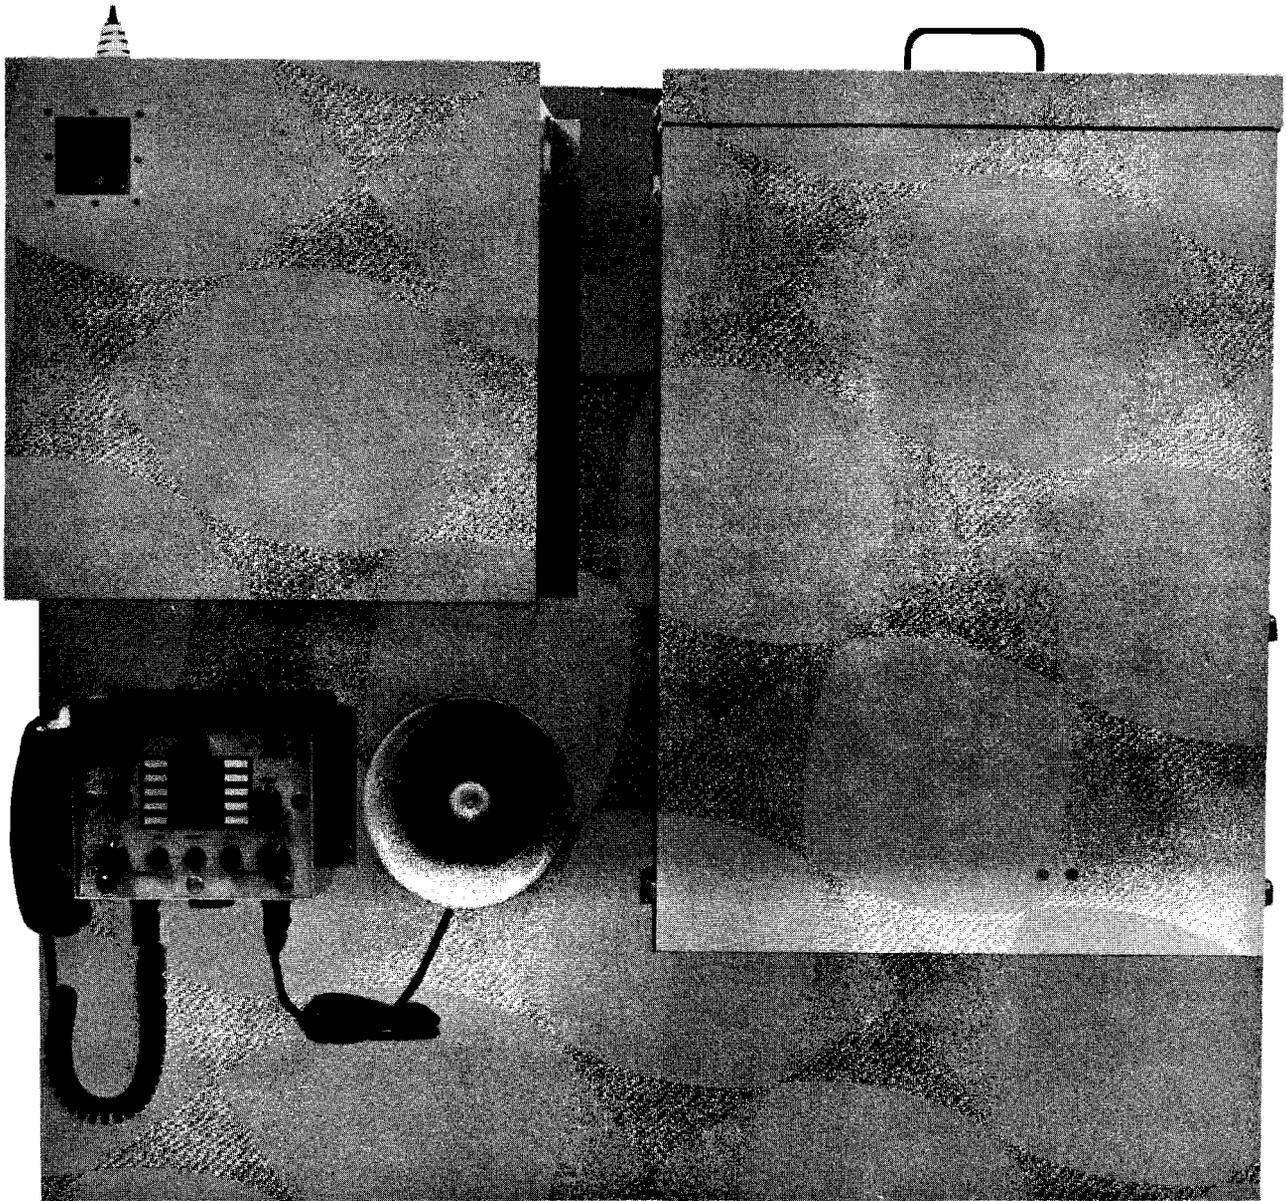
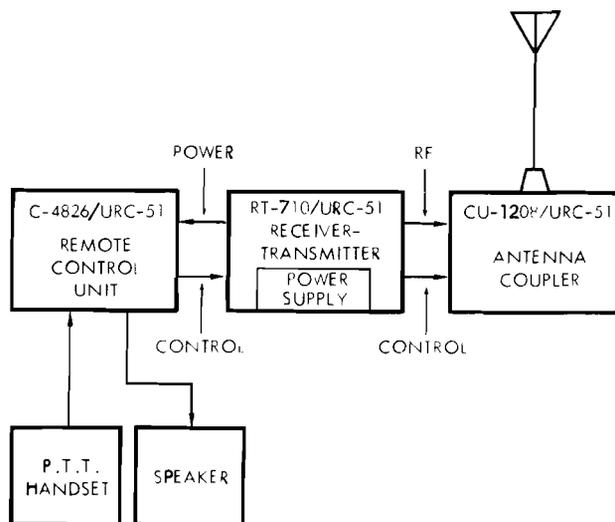

Figure 1-1. Radio Set AN/URC-51
Figure 1-2. System Block Diagram
The AN/URC-51 Radio Set (see Figure 1-1) is a single-side-band (SSB), compatible amplitude-modulated (AM) transceiving system that provides short- and medium-range simplex radio telephone communications on 10 pretuned, crystal-controlled, remotely selected channels in the 2- to 18-Mc range. The set consists of Remote Control C-4826/URC-51, Antenna Coupler CU-1208/URC-51, Receiver-Transmitter RT-710/URC-51, and Power Supply PL-9015-02-00006 (see Figure 1-2, System Block Diagram). The Receiver-Transmitter cabinet assembly has provisions for connecting to both the C-1138B/UR Remote Control and the C6513/URC Remote Control. Table 1-1 lists the equipment supplied. Table 1-2 lists the equipment required but not supplied. Tables 2-2 and 2-3 in Section II contain interconnection information.